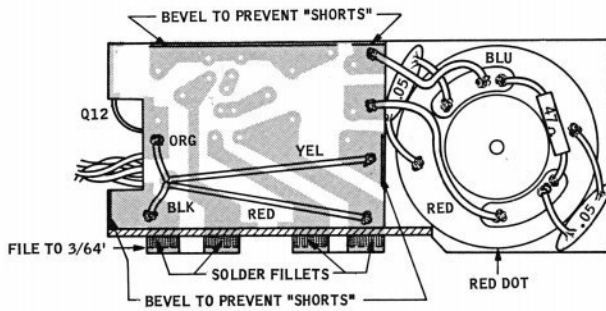

FIGURE 1 REAR VIEW
- ( ) Refer to figure 1 and insure that the red dot is at the bottom of the motor as shown. If not remove motor mounting screws and rotate motor. Tighten motor screws in either case.
- ( ) Solder them as shown in figure 1 and insert them through hole A in the auxiliary board.
- ( ) Secure the amplifier with the mounting screw and again check for clearances, etc. Make sure the inside .05 motor capacitor doesn't short against any lands on the auxiliary board (see figure 1). Bevel the board if necessary.
- ( ) Solder the blue and red motor leads as shown in figure 1. Leave some "slack" in the wires to prevent breakage by vibration.
- ( ) Check overhang on Q12 as per figure 1. It should not extend beyond edge of P.C. board.
- ( ) Bevel areas of P.C. board shown in figures 1 and 2 to provide clearance between copper lands and